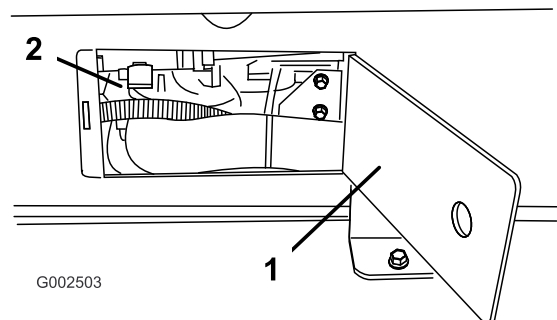

Figure 21
- Use the access panels on both sides of the tank skid to check for pinching of any hoses or wiring (Figure 21).